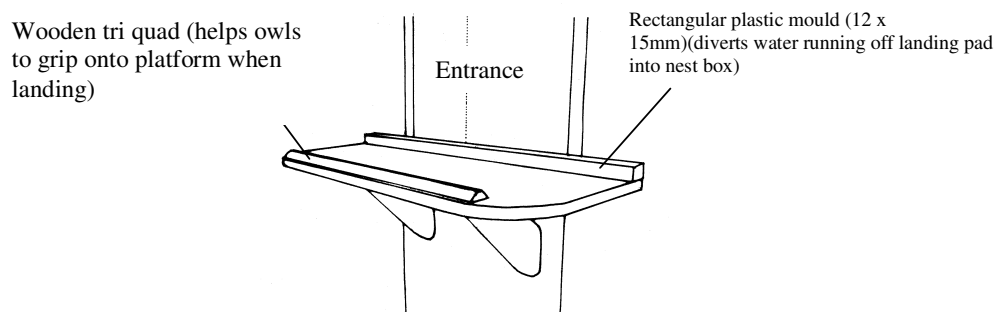

Fig. 3. Landing platform and fittings at entrance to hexagonal nest box.
Step 6. Fit fixtures to landing platform (see Fig. 3)
- It is important to ensure that the interior of the owl box remains as dry as possible through diversion of rain water by the moulded square rod placed across the entrance of the owl box (Fig. 3) and through correct siting of the owl box (see below – **Mounting owl boxes**).